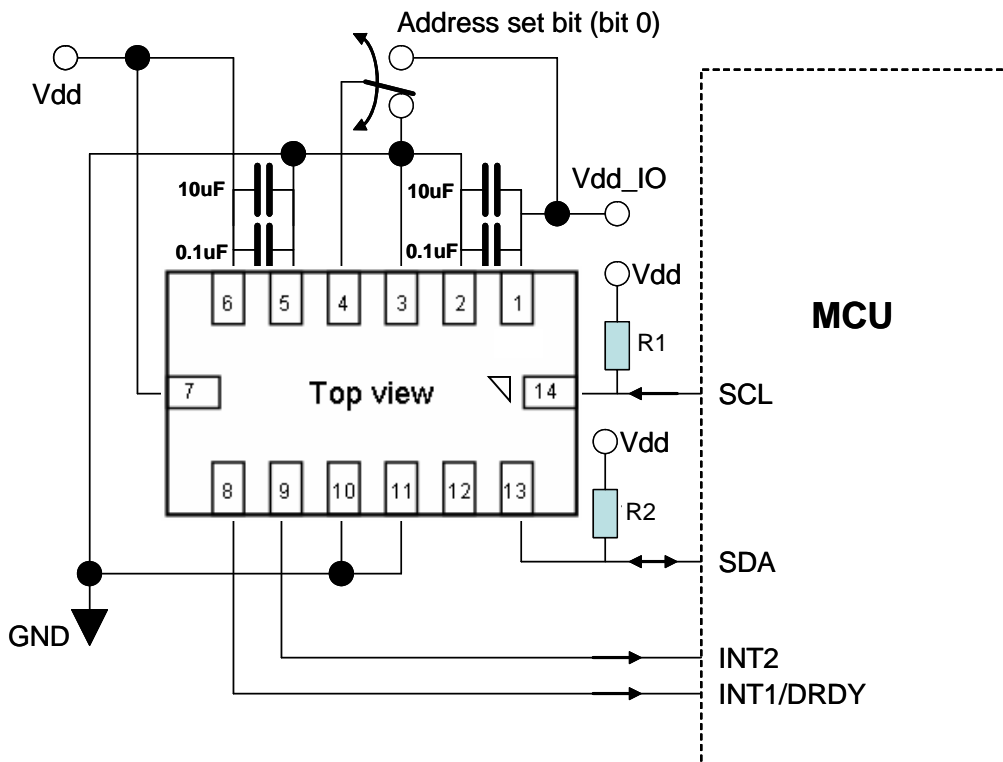
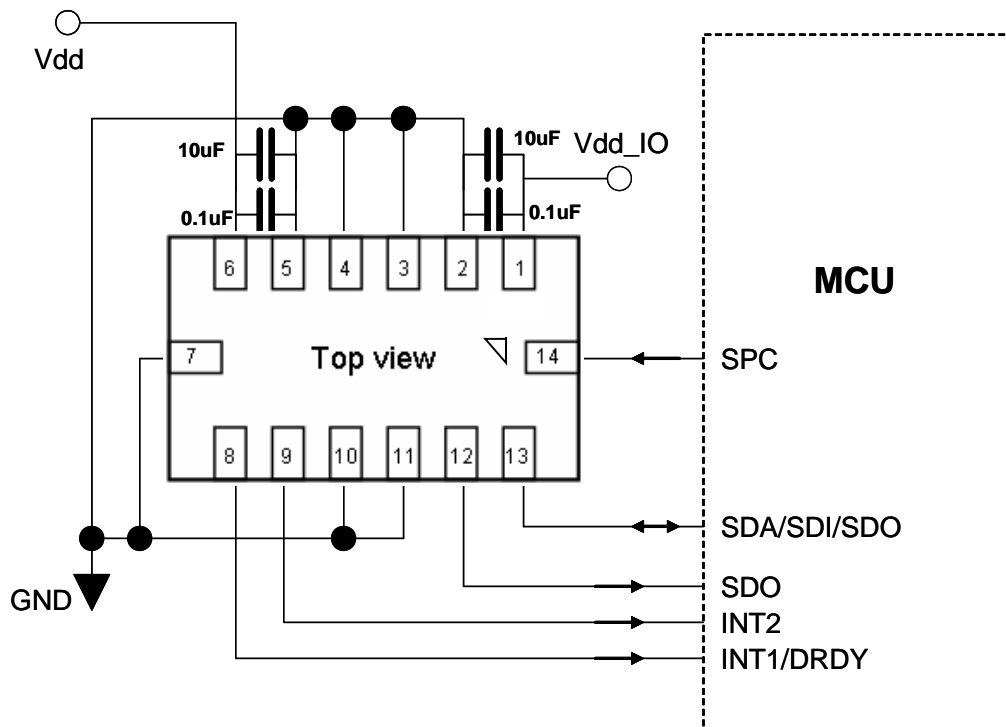

Figure 15. I²C Connection to MCU
Figure 16. SPI Connection to MCU
The MMA7455L also uses serial peripheral interface communication as a digital communication. The SPI communication is primarily used for synchronous serial communication between a master device and one or more slave devices. See Figure 16 for an example of how to configure one master with two MMA7455L devices. The MMA7455L is always operated as a slave device. Typically, the master device would be a microcontroller which would drive the clock (SPC) and chip select (CS) signals.
3. Place a ground plane beneath the accelerometer to reduce noise, the ground plane should be attached to all of the open ended terminals shown in Figure 15 and Figure 16.